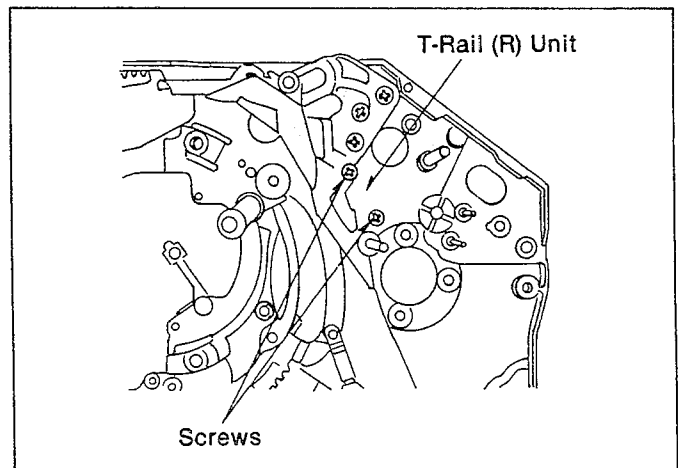

Fig. M8
- (2). Install the T-Rail(R) Unit as shown in Fig.M8